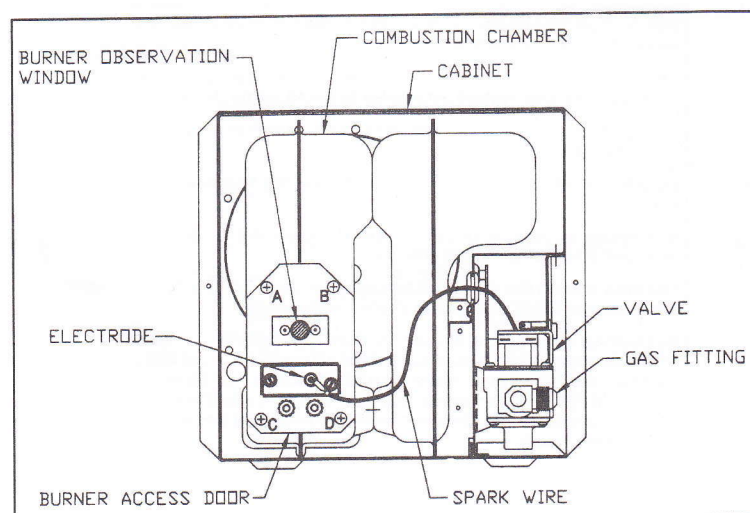
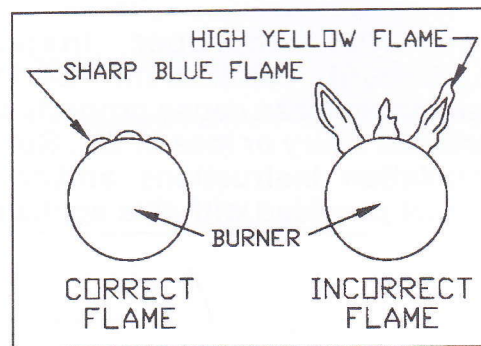

Figure 1
Figure 2
2. Periodically observe the main burner flame to assure it is burning with a hard blue flame with well defined burner ports (See Figure 2). If flame appears yellow or burner has a lazy flame, shut furnace down. It is possible that burner needs cleaning or replaced. To inspect the main burner, remove the four (4) screws (A, B, C and D) securing the burner access door to the combustion chamber (See Figure 1). If excessive rust and corrosion are present on burner surface, the burner must be thoroughly cleaned or replaced. The burner may be cleaned using a steel wire brush and blown clean using high compression air. Contact a qualified service person for assistance.
**NOTE:** To observe flame, cabinet front must be removed. Operation of burner can then be observed through the viewing window on front of chamber. (See Figure 1.)